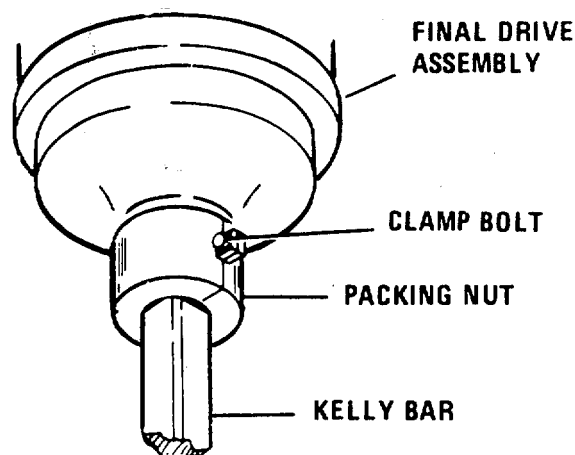

FIGURE 4-7. KELLY BAR (LOWER) PACKING NUT
- B. To tighten the packing nut, refer to Figure 4-7.